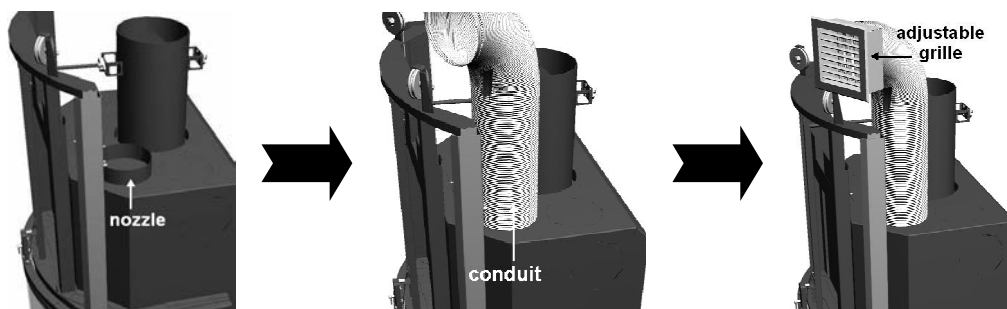

Fig. 16
- For conduits 1 to 6, depending of combination: Open the holes and connect the outlet nozzles (Fig. 16), connect the conduits (for hot air) and constrict them with clamps. It's also necessary to cover these conduits with rock wool for insulation. Also, cover all the outlets on the cladding, with adjustable grilles